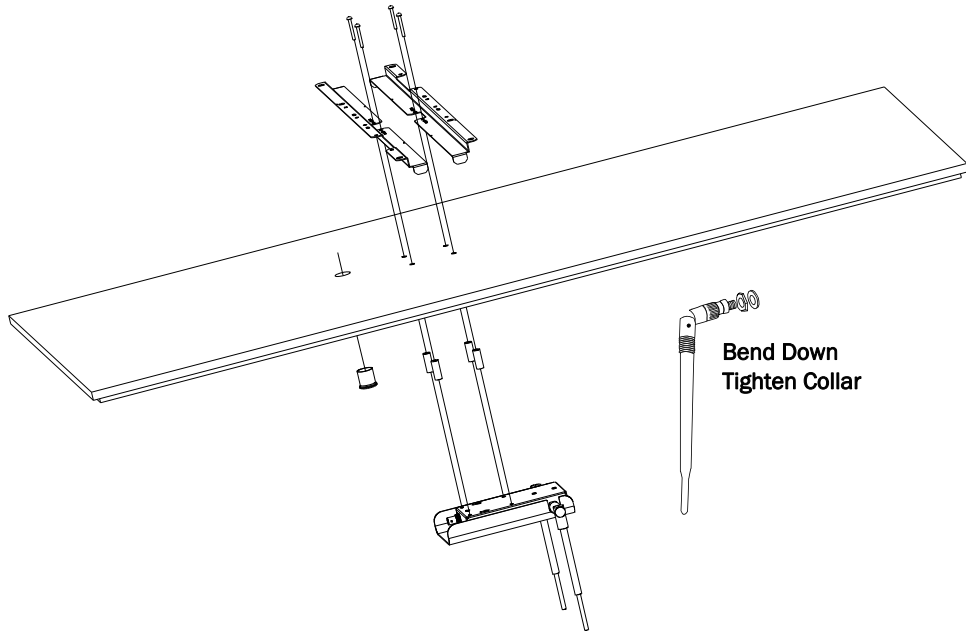

Figure 2-22: Mounting the RA Below a Ceiling Tile (Fixed Mount)
7. Insert the four (4) M3-.5 x 30 lobe screws into the RA mounting rail holes, through the ceiling tile, through the provided plastic spacers, and into the mating holes in the back of the RA chassis as shown in Figure 2-22. Torque-tighten each screw to 8-inch lbs.